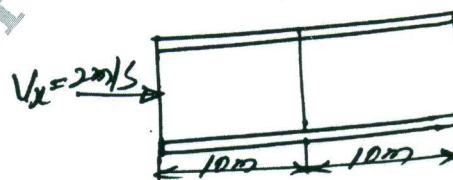

Fig.Q8(b)
b. For the smooth pipe with uniform cross-section of 1m² as shown in Fig.Q8(b). Determine the flow velocities at the center and right end, by knowing the velocity at the left is $V_x = 2 \text{ m/sec}$. (10 Marks)